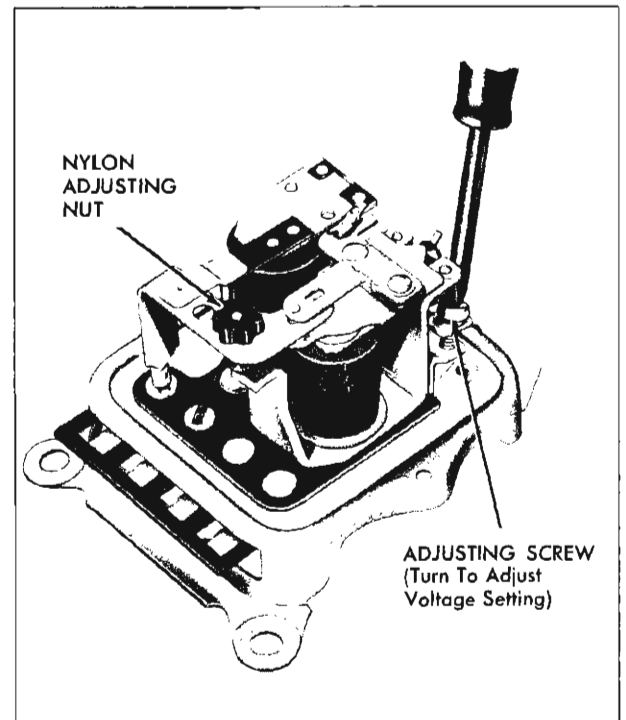

Fig. 14—Adjusting Voltage
3. Turn nylon nut clockwise slightly to decrease "difference in voltage" between upper and lower contact settings and counterclockwise slightly to increase difference (fig. 14).
- b. Turn adjusting screw counterclockwise to decrease setting. When decreasing setting, always turn screw counterclockwise to decrease voltage more than required amount, then turn screw clockwise to obtain final setting (fig. 14).